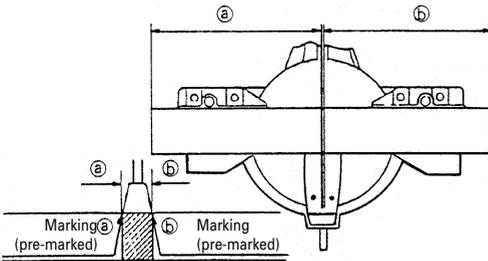

Fig. 14
- (1) As shown in Fig. 14 the width of the saw blade is the width of the cut. Therefore, slide the workpiece to the right (viewed from the operator's position) when length (b) is desired, or to the left when length (a) is desired.